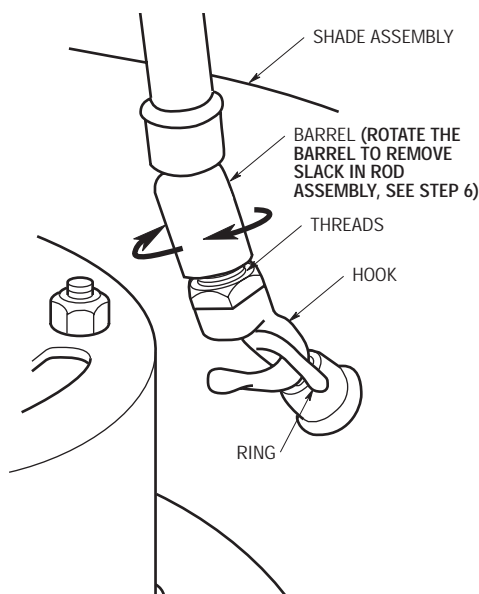

Figure 23
- 2. Verify that three or four threads are visible between the bottom hook and the barrel of the rod assembly (Figure 23). If necessary, turn barrel to expose more threads. Check all rod assemblies.
- 3. Engage the rod hook with the ring in the shade assembly (Figure 23).
- 6. Tighten (rotate) the barrels of the rod assemblies to take up any slack, thereby reducing the chance of noise due to vibration when the fan is operating (Figure 23).